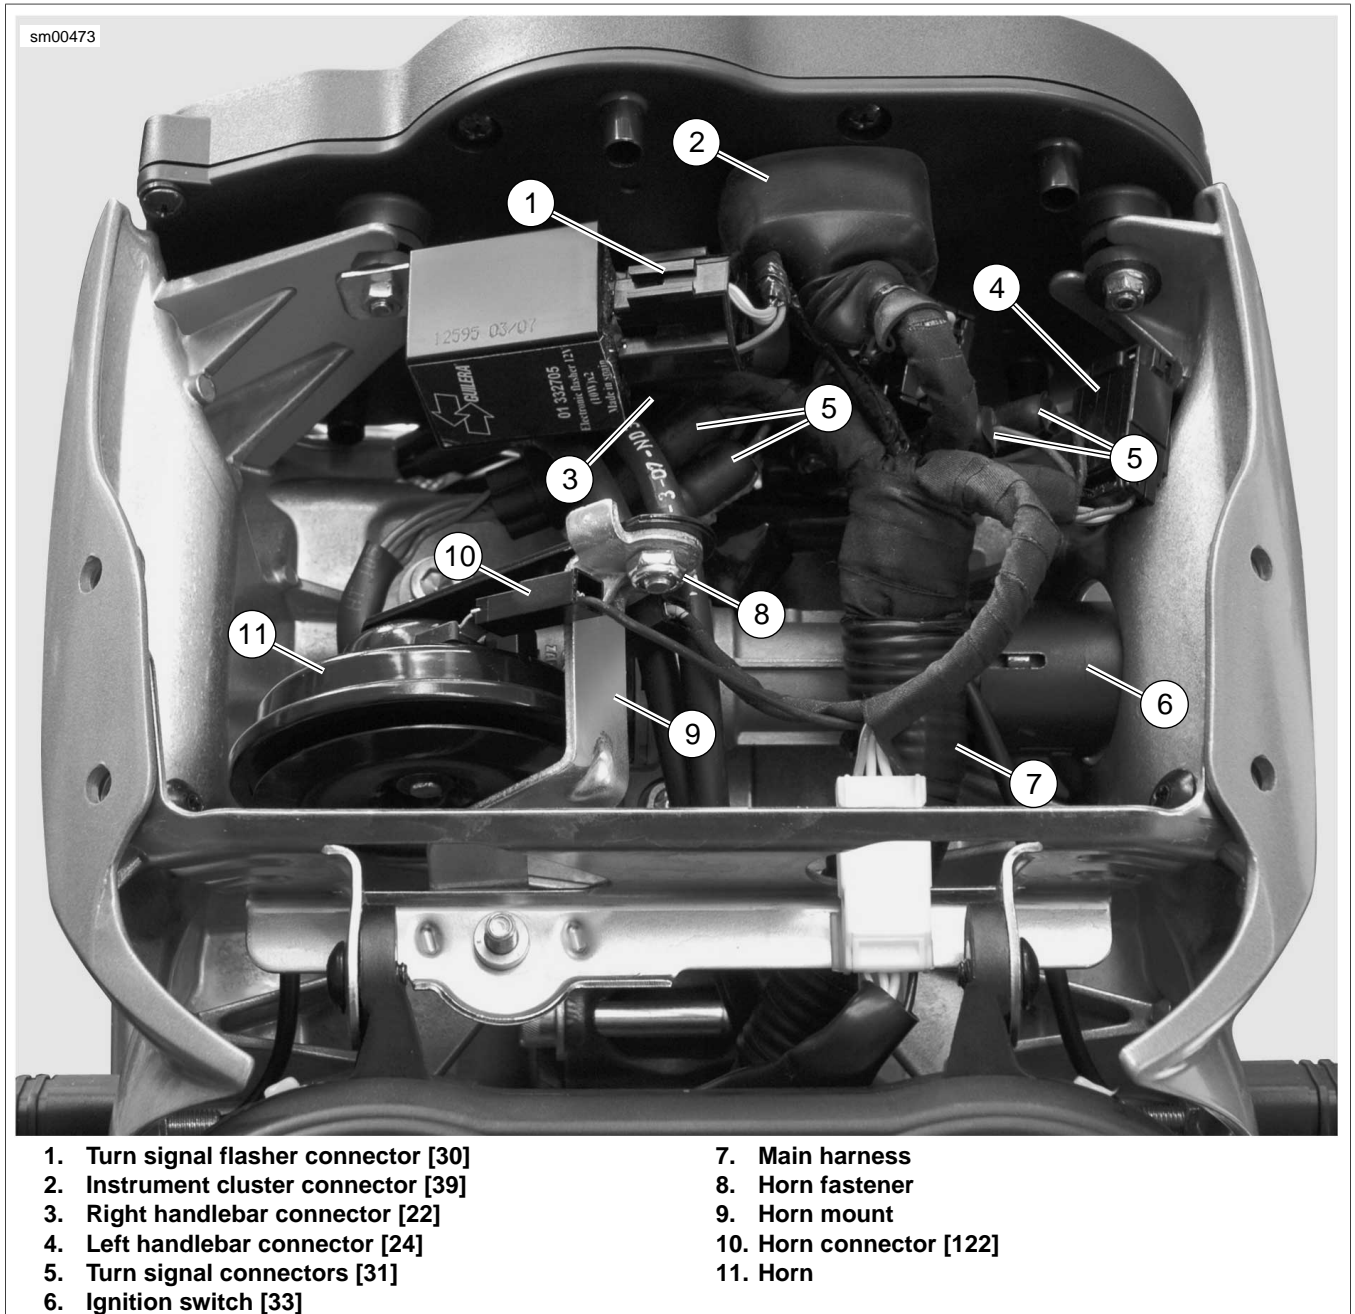
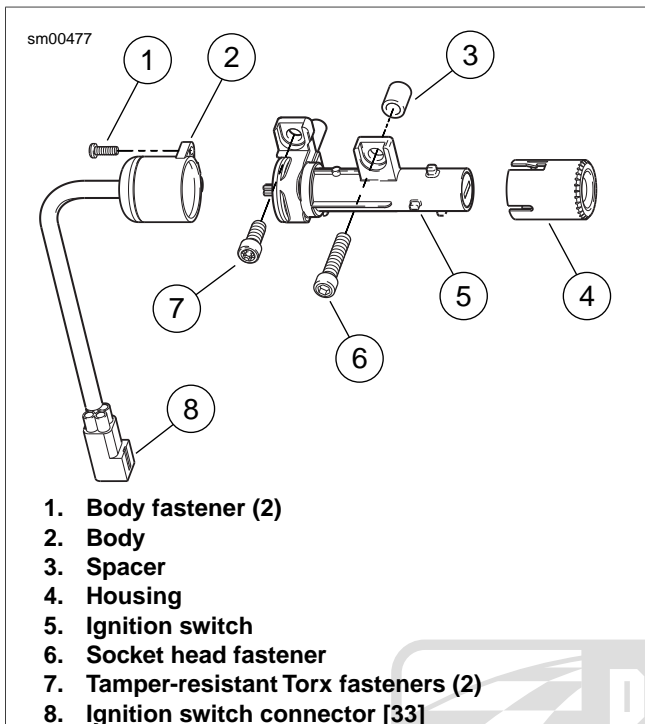

Figure 6-7. Electrical Connectors Behind Windscreen: Lightning
Figure 6-9. Ignition Switch Assembly
- See Figure 6-7. Disconnect:
- Turn signal flasher connector [30] (1)
- Turn signals connector [31] (5)
- Left [24] (4) and right [22] (3) handlebar wiring harness connectors
- Instrument cluster connector [39] (2)
- Horn connector [122] (10)
- Remove horn (11) from horn mount (9).
- Cut cable strap that loosely holds main wiring harness (7) to the ignition switch (6) and disconnect ignition switch connector [33].
1. See Figure 6-9. Remove ignition switch housing (5) from ignition switch (4) by prying tabs on side of housing.
2. Remove ignition switch body fasteners (1). Separate ignition switch body (2) from ignition switch (4).
See Figure 6-9. In next step, be sure wide slot in ignition switch housing (5) is installed over wide boss on ignition switch (4).
1. Push ignition switch housing (4) on to ignition switch (5).
1. See Figure 6-9. While holding the throttle cables (3) to your left (the right side of the vehicle), slide the ignition switch assembly in to your right (the left side of the vehicle).
2. Install the ignition switch (4) with the fork stop pin (5) pointing down and, once in place, roll the assembly toward you and insert the fork stop pin into the upper triple clamp.
3. See Figure 6-9. Apply LOCTITE 271 (red) to ignition switch fasteners (6, 7).
4. Install spacer (3) onto fastener (6), and attach ignition switch assembly to upper triple clamp.
6. See Figure 6-7. Connect ignition key switch connector [33] (6) to wiring harness.
7. Install horn connectors [122] (10) and install horn assembly (11) tightening fastener to 72-96 **in-lbs** (8-11 Nm).
- a. Instrument cluster connector [39] (2)
- b. Left [24] (4) and right [22] (3) handlebar wiring harness connectors
- c. Turn signal connectors [31] (5)
- d. Turn signal flasher connector [30] (1)